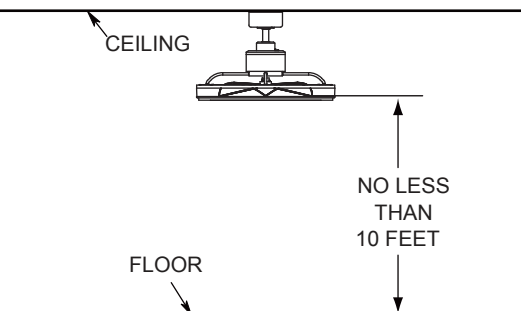
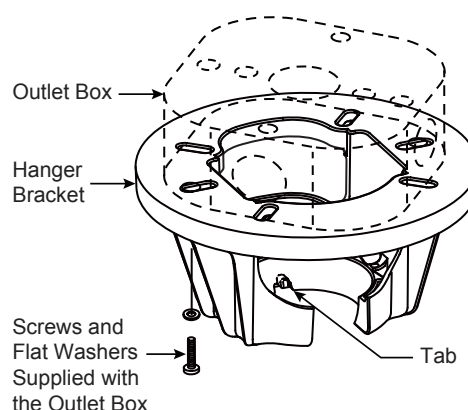

Figure 2
Figure 3
Your new ceiling fan will require a grounded electrical supply line of 120 volts AC, 60 HZ, 15 Amp Circuit. Electrical code requires use of a fan-rated outlet box to support the extra weight and motion associated with a ceiling fan. A fan-rated box will be labeled as such and typically supports up to a 70lb ceiling fan. Fan-Rated Outlet Boxes vary in ratings and design. Ensure the ratings of your ceiling fan outlet box meet the requirements for the ceiling fan being installed. Figure 1, Figure 2 and Figure 3 depicts different structural configurations that may be used for mounting the outlet box.
Deep box (Figure 2)
Deep box with brace (Figure 3)
- ☐ 2. Remove the hairpin clip and clevis pin from the bottom of the downrod. Retain the pin and clip for reinstallation in Step 4. (Figure 2)
- ☐ 3. Loosen the two set screws and locking nuts in the downrod support of the motor assembly. Route the black, white and blue wires through the downrod. (Figure 3)
The fan must be hung with at least 10' of clearance from floor to blades. (Figure 2)
- ☐ 1. Securely attach the hanger bracket to the outlet box using the outlet box screws and washers supplied with the outlet box. (Figure 3)
NOTE: Outlet box screws pass through slotted holes of the hanger bracket. (Figure 3)
- ☐ 3. Carefully lift the fan and seat the downrod/hanger ball assembly onto the hanger bracket that was just attached to the outlet box. (Figure 4) Be sure the groove in the ball is lined up with tab on the hanger bracket. (Figure 3)
To avoid possible electrical shock, be sure electricity is turned off at the main fuse box before wiring. (Figure 2)
2. Slide the receiver into the hanger bracket before wiring as shown in figure 3.
- ☐ 2. Securely attach and tighten the canopy screw cover over the shoulder screws in the hanger bracket utilizing the keyslot twist-lock feature. (Figure 2)
- ☐ **2.** Restore electrical power to the outlet box by turning the electricity on at the main fuse box. (Figure 2)
- ☐ **3.** To make fan operational, install 23A/12V battery (included) in hand-held remote transmitter, with fan power off. Then follow the remote code setting process. (If not used for long periods of time, remove battery to prevent damage to transmitter). Store the remote away from excessive heat or humidity. (Figure 3)